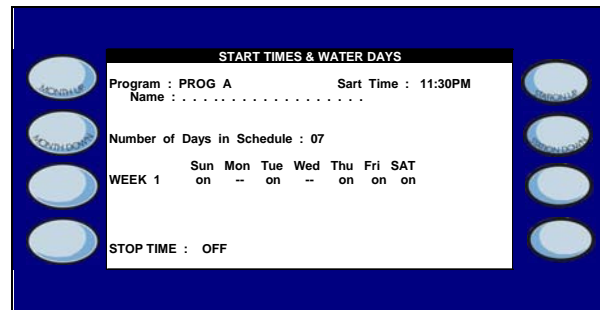

Figure 3
The **START TIMES AND WATER DAYS** screen will appear (Figure 3).
5. Use the same method in steps three (3) and four (4) to change or enter the following:
6.  Press the **TO SET VALVE RUN-TIMES PRESS HERE** Menu key (Figure 3).